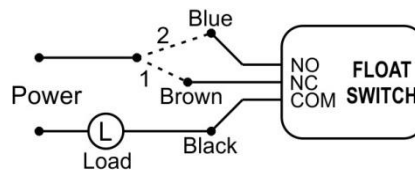

Fig. 4. Connection of FS type switch.
3. Run the cable through the hole in the counterweight and connect float switch with the pump as shown in Fig. 4 and 5.